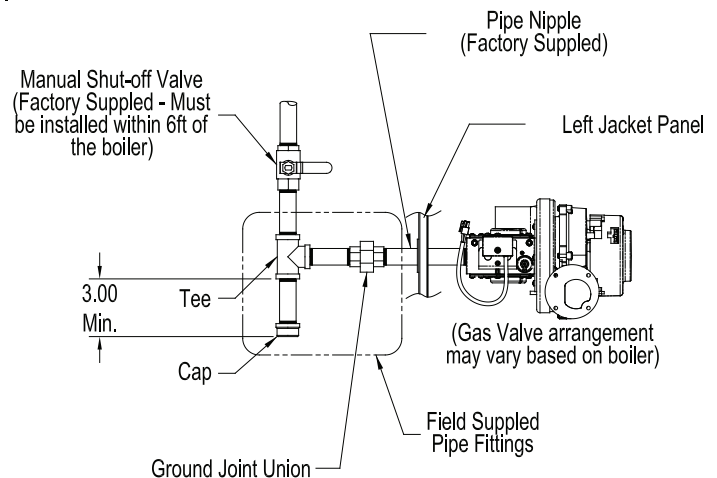

Figure 25: Recommended Gas Piping
- Install sediment trap, ground-joint union and manual shut-off valve upstream of mounted factory supplied manual shut-off valve. See Figure 25.
2. **Individual module (boiler) recommended gas piping detail** - see Figure 25.